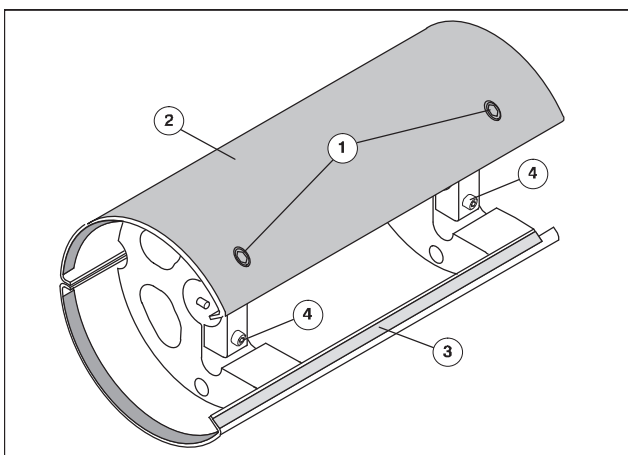

Fig. 15 Super Blue delivery drum
1. Loosen 4 countersunk screws at the sheet-metal jacket (Fig. 15/1) and unscrew.
2. Remove the sheet-metal jacket (Fig. 15/2).
3. Proceed the same way at the other sheet-metal jacket (Fig. 15/3).
4. Unscrew both Allen screws (Fig. 15/4) at each retaining bridge and remove the retaining bridges from the supports.